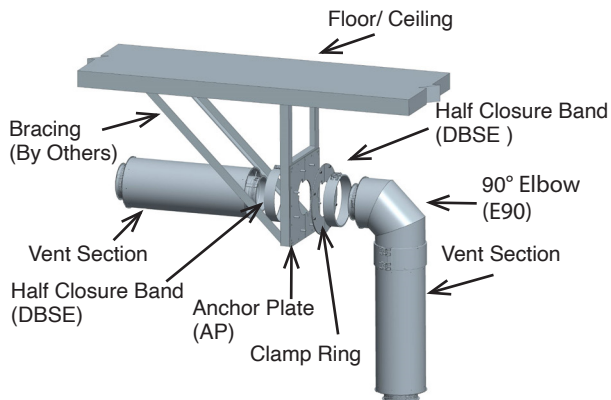
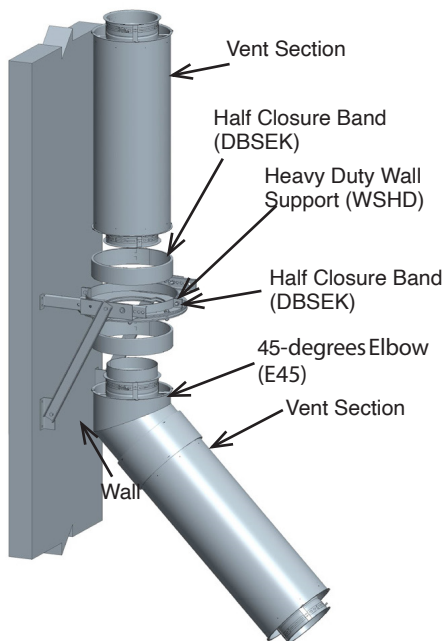

Figure 56- Elbow with an Anchor Plate (AP)
Figure 57- Elbow with a Heavy Duty Wall Support
Elbows are to be supported on one end with either a fixed support: Anchor Plate (AP), or a Heavy Duty Wall Support (WSHD). See Figure 56 for an example with an AP and Figure 57 for an example with a (WSHD).